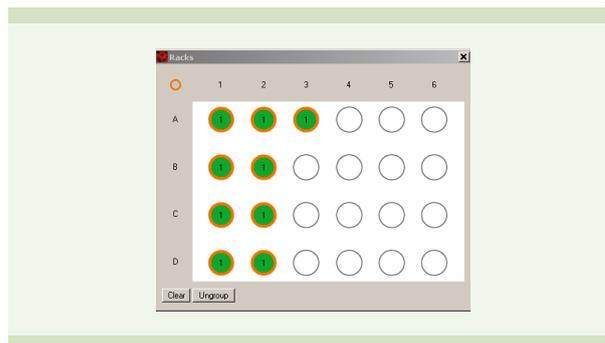

Figure 2: Activated cell samples were grouped together.
5. Select and activate the corresponding rack positions. Click **Group** to group the samples into a single group. All grouped samples will now have a **1** in the center (figure 2).